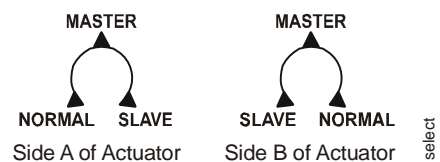

Figure 15: Tandem Selector Switch
- Only one of the actuators can be configured as the master. Set the selector switch to the master position (Figure 15).
Each slave actuator must have its tandem selector switch (Figure 15) set on the slave setting. Its gray command wire must be connected the master's orange feedback wire.